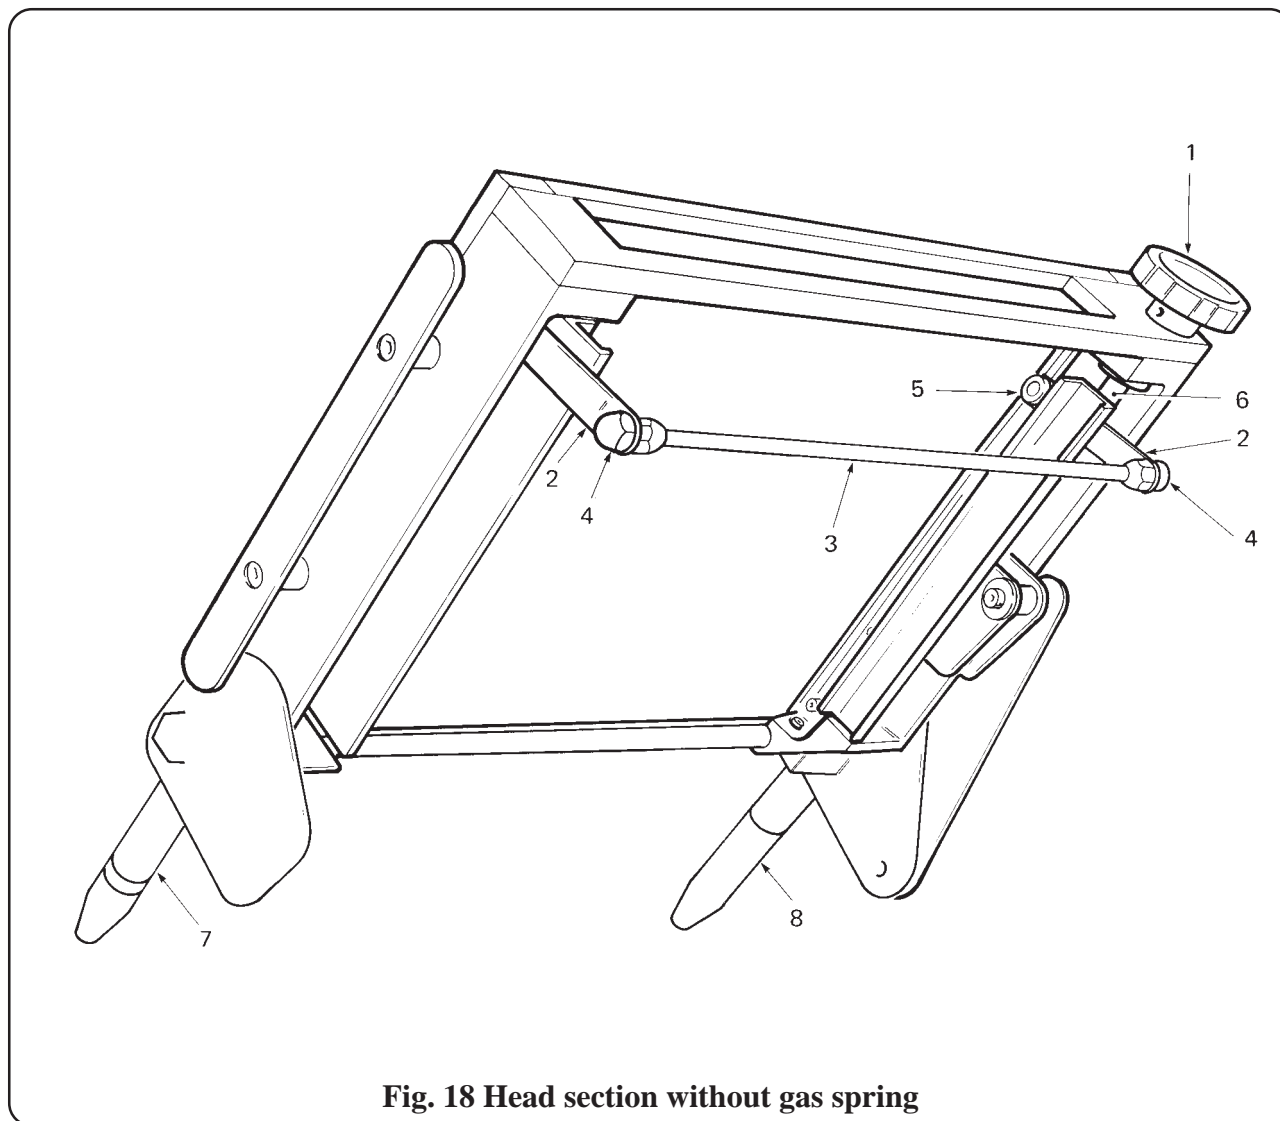

Fig. 18 Head section without gas spring
4.53. Remove grub screw from handwheel (1, Fig. 18), grip worm shaft (6, Fig. 18) then remove handwheel. When fitting a new handwheel, it is recommended that the grub screw should also be renewed.
4.54. Quick-release bar assembly consists of two rack lift levers (2, Fig. 18) and the release bar (3, Fig. 18). If it is only required to detach release bar, simply remove two domed nuts (4, Fig. 18) at each end of bar to free bar from rack lift levers.
4.55. If complete release bar assembly is to be removed including rack lift levers (2, Fig. 18), unscrew socket head screws (5, Fig 18) on either side and ease lever pivots out of their slots.